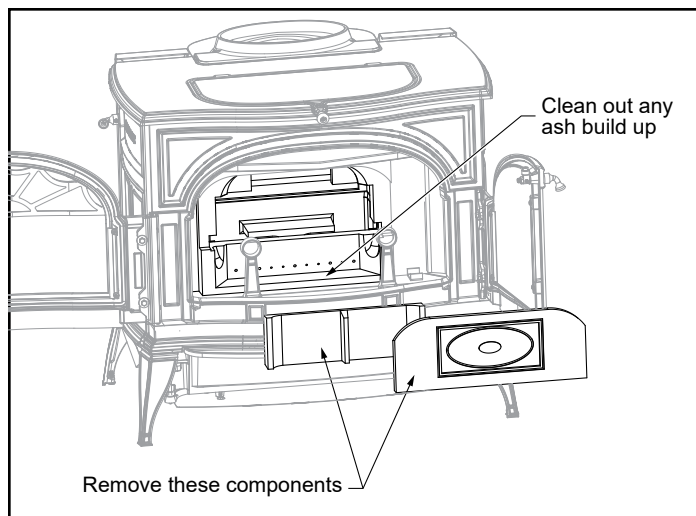

Figure 6.6 - Inspect and clean out ash accumulation behind the combustion system.
- Inspect for and remove ash build-up behind the combustion package. This should be done in conjunction with annual cleaning of the chimney connector. Inspect the passage behind the combustion package (a mirror will be helpful) and vacuum away ash using a flexible vacuum hose inserted in the passage, Figure 6.6.